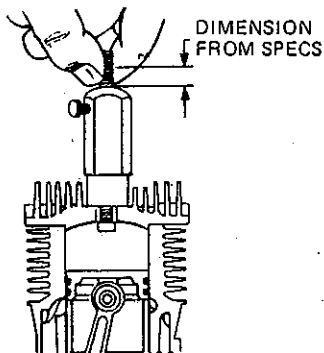
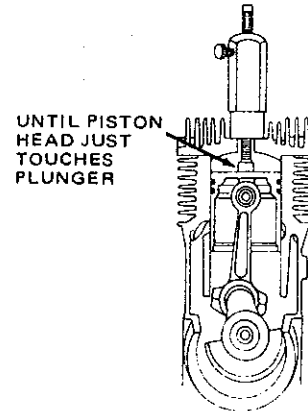

Figure 24
Figure 25
- I. Apply the correct dimension to the engine. (See Figure 24.)
- (1) If tool number 670124 is used, carefully find dimension on the calibrated plunger. Hold that dimension carefully, then loosen the set screw and move the plunger into the barrel. Re-tighten the set screw. NOTE: Calibrations on plunger are 1/32 inch or .031 inch.
- (2) If dial indicator or straight edge and rule are used, move piston down until correct dimension is registered.
- J. When using tool number 670124, bring piston up on normal rotation until it contacts plunger. (See Figure 25.)